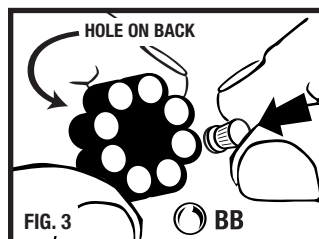

FIG. 3
2. Remove rotary clip and insert a total of eight projectiles into the rotary clip from the solid side of the clip. (.177 cal. pellets and/or BBs only) (Fig. 3).